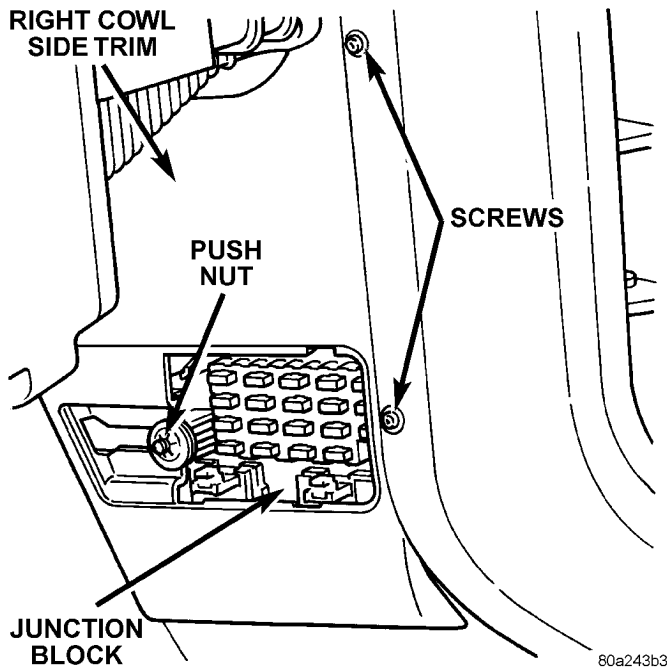

Fig. 22 Right Cowl Side Trim Panel Remove/Install
- (1) Disconnect and isolate the battery negative cable.
- (2) Remove the fuse access panel by unsnapping it from the right cowl side trim panel.
- (3) Remove the push nut that secures the right cowl side trim panel to the junction block stud (Fig. 22).